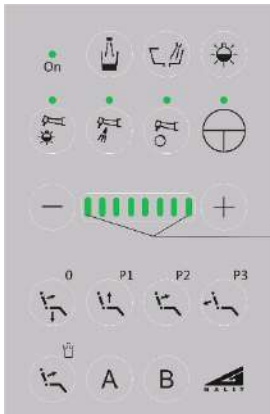

Figure 5.2.4.5
- select the necessary scaler operation mode (PERIO/SCALING) on the control panel of the doctor table (Figure 5.2.4.5). (Inserts or files for the scaler must be selected according to the mode of operation of the scaler).
- **I-VIII indicators** determine the power range for the mode **SCALING** (Figure 5.2.4.5);